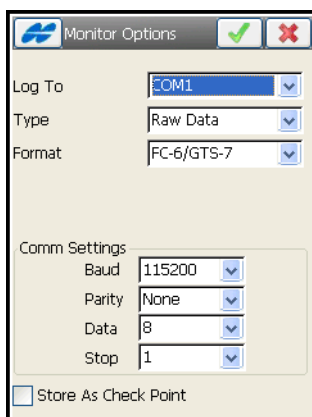

Figure 3-64. Monitor Options - COM1 Port selected
- *Comm Settings* – sets the communication parameters for the port: the baud rate, parity, number of the data bits and number of the stop bits (Figure 3-64).